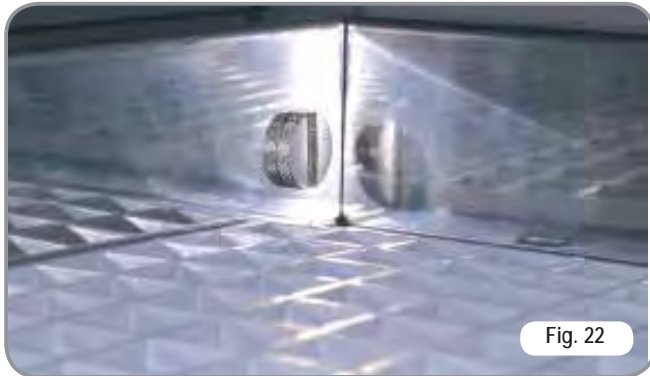

Fig. 22
- unscrew the 4 screws on the top panel (Fig. 22);